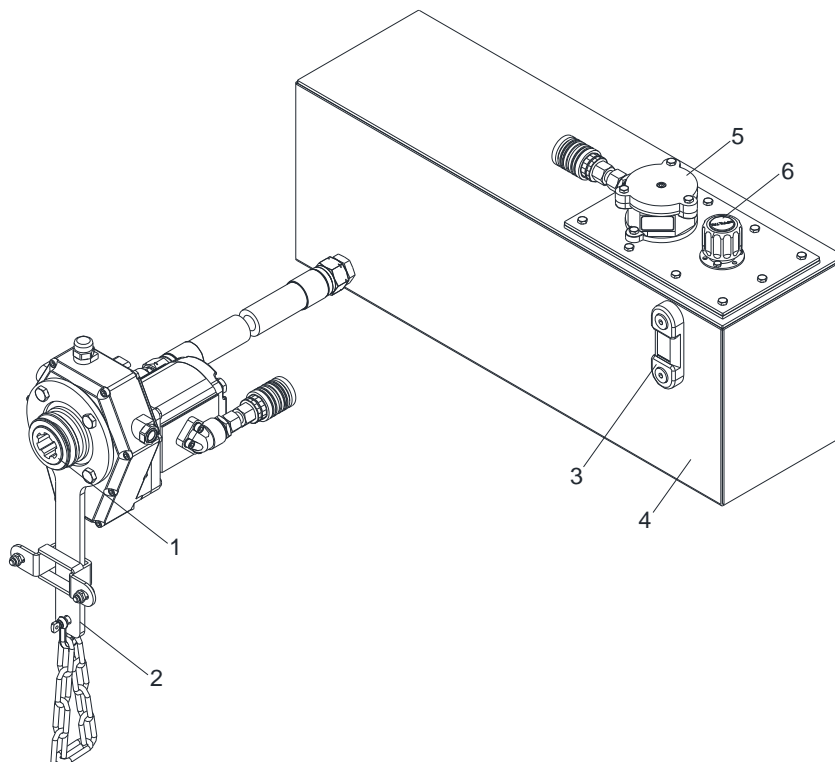

Fig. 11 PTO driven External oil supply unit
The external oil supply unit consists of a PTO gearbox with slip-on pump (Fig. 11/1), torque arm with safety chain (Fig. 11/2), sight glass (Fig. Fig. 11/3), hydraulic tank (Fig. Fig. 11/4), return filter (Fig. 11/5) and filling and venting filter (Fig. 11/6).
The oil temperature, see sight glass (Fig. 11/3), should be approx. 25°C when starting work; if necessary, warm up the hydraulic system.
- ▶ Before starting work, check the oil level in the hydraulic tank (Fig. 11/3). An insufficient oil quantity can lead to damage or destruction of the hydraulic pump.